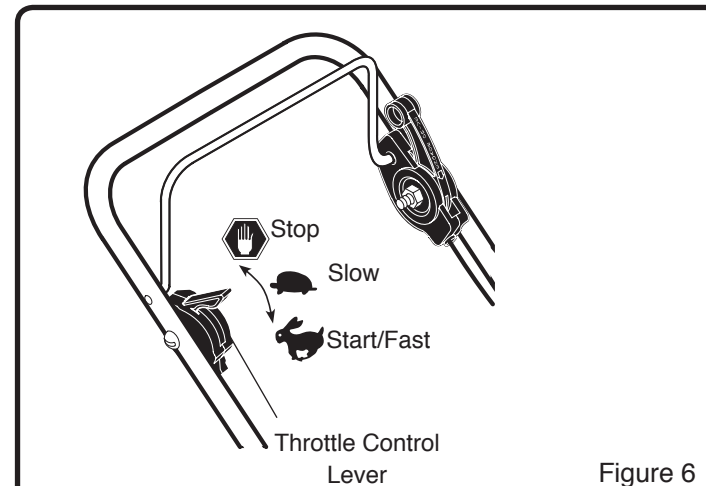

Figure 6
2. Push the throttle lever in the forward position. (See Figure 6)
Move the throttle lever completely back to the STOP position. (See Figure 6)